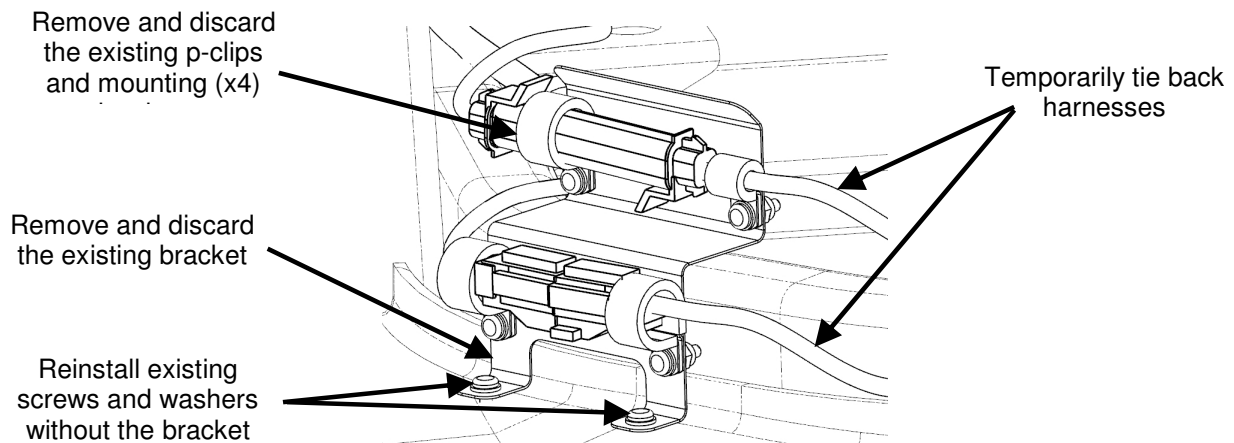

Figure 1: Existing Harness Support Bracket
3. Remove and discard the existing p-clips and mounting hardware from the existing harness support bracket, temporarily tie back the existing harness (x2), see Figure 1.
4. Remove and save the existing screws and washers (x2) securing the existing harness bracket to the frame, remove and discard the bracket. Re-install the two (2) screws and washers into the same holes as removed. See Figure 1.